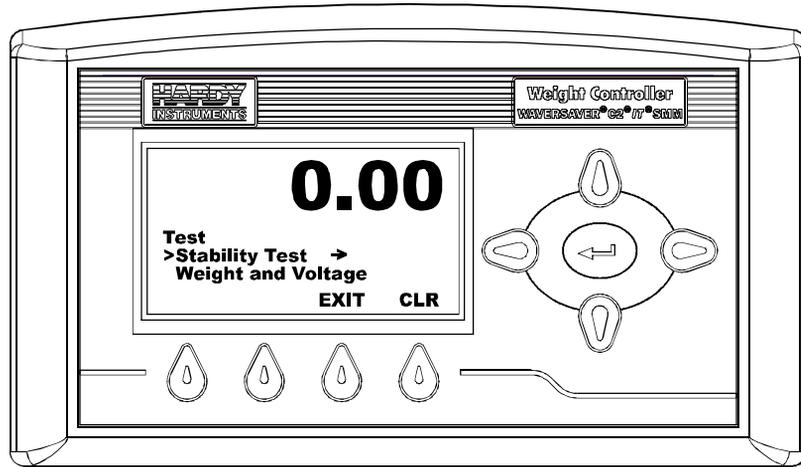

FIG. 393 TEST/SELECTING STABILITY TEST
Step 10. To perform the Stability Test press the down arrow until the cursor is in front of Stability Test. (See Fig. 393)